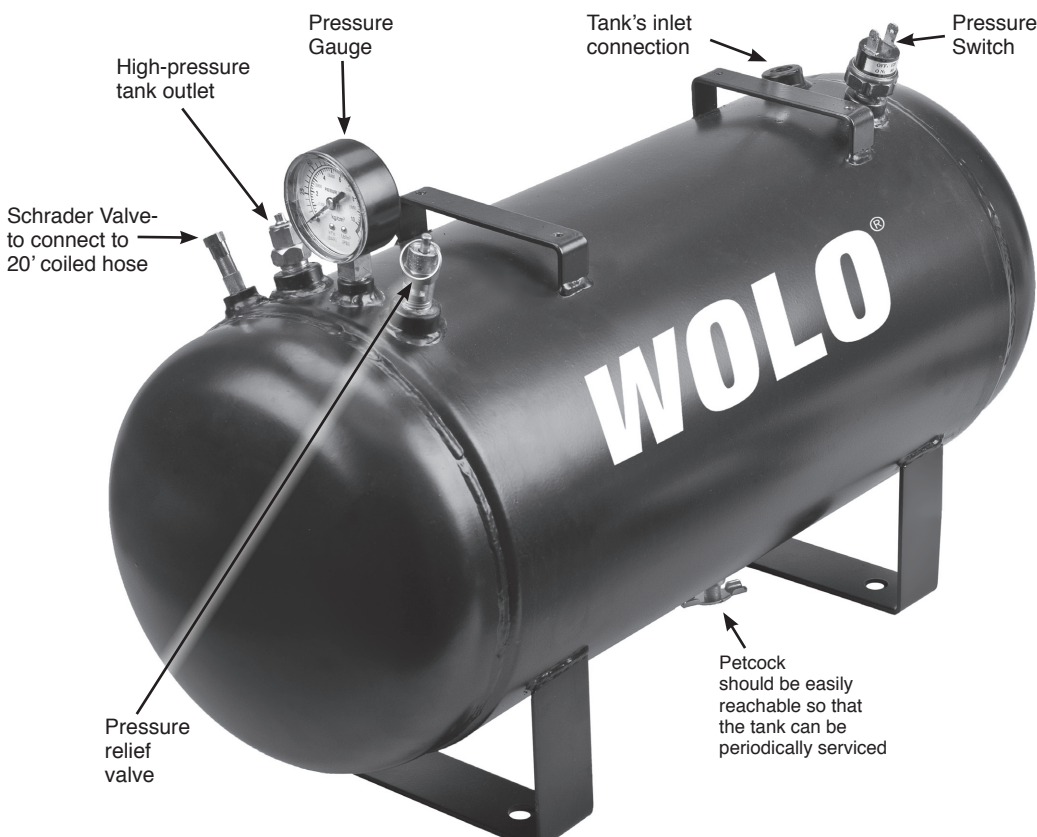

Fig. 1
## TANK INSTALLATION (Fig. 1):
## HOSE INSTALLATION: (Fig. 1 through 3)
3. Connect the compressors outlet hose to tanks inlet port. (Fig. 1.)